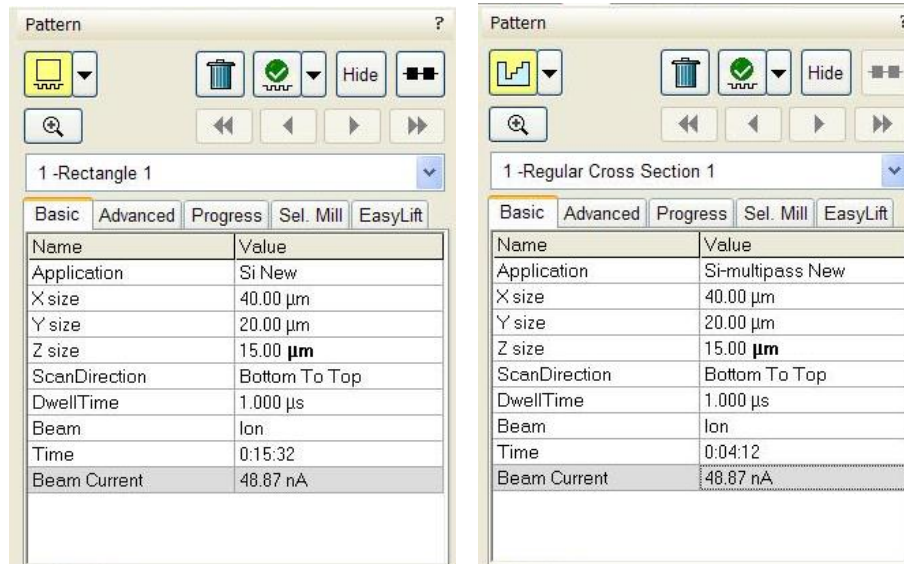

Figure 14
1. Select pattern shape in the pull-down menu of **Pattern** tab (left panel of Figure 14) and draw it in the Ibeam quadrant (pattern should be in yellow color); choose proper
parameters in **Basic** and **Advanced** tab in **Pattern** tab (right panel of Figure 14):